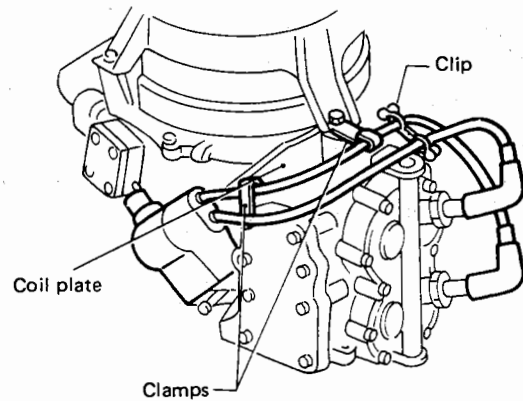

Fig.9.10
4. Fix the high-voltage cord for the lower cylinder with clamps provided on the exhaust cover and recoil starter as shown in Fig.9.10.
- Fix the high-voltage cord for the upper cylinder with the clip in the position shown in Fig.9.10.